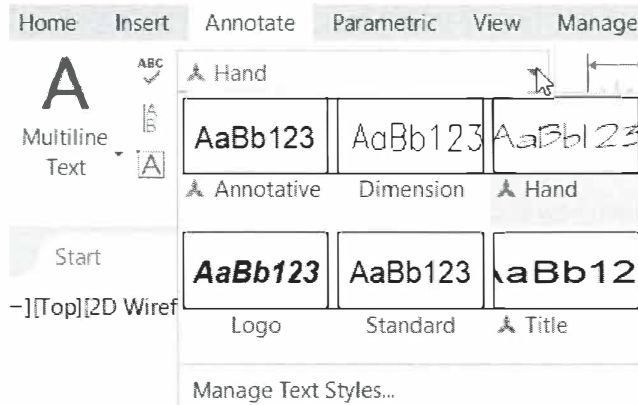

Figure 9–1
When you add text to your drawing, it uses the properties (e.g., height, font, etc.) of the current *text style*, as shown in Figure 9–1. Text styles should be created in the template file so that everyone on the same project uses the same styles. You can create a new style by assigning the height, width, and slant to a text font, or to a typeface design.
2. In the Text Style dialog box (shown in Figure 9–2), click **New...** The new style takes on the attributes of the current text style.